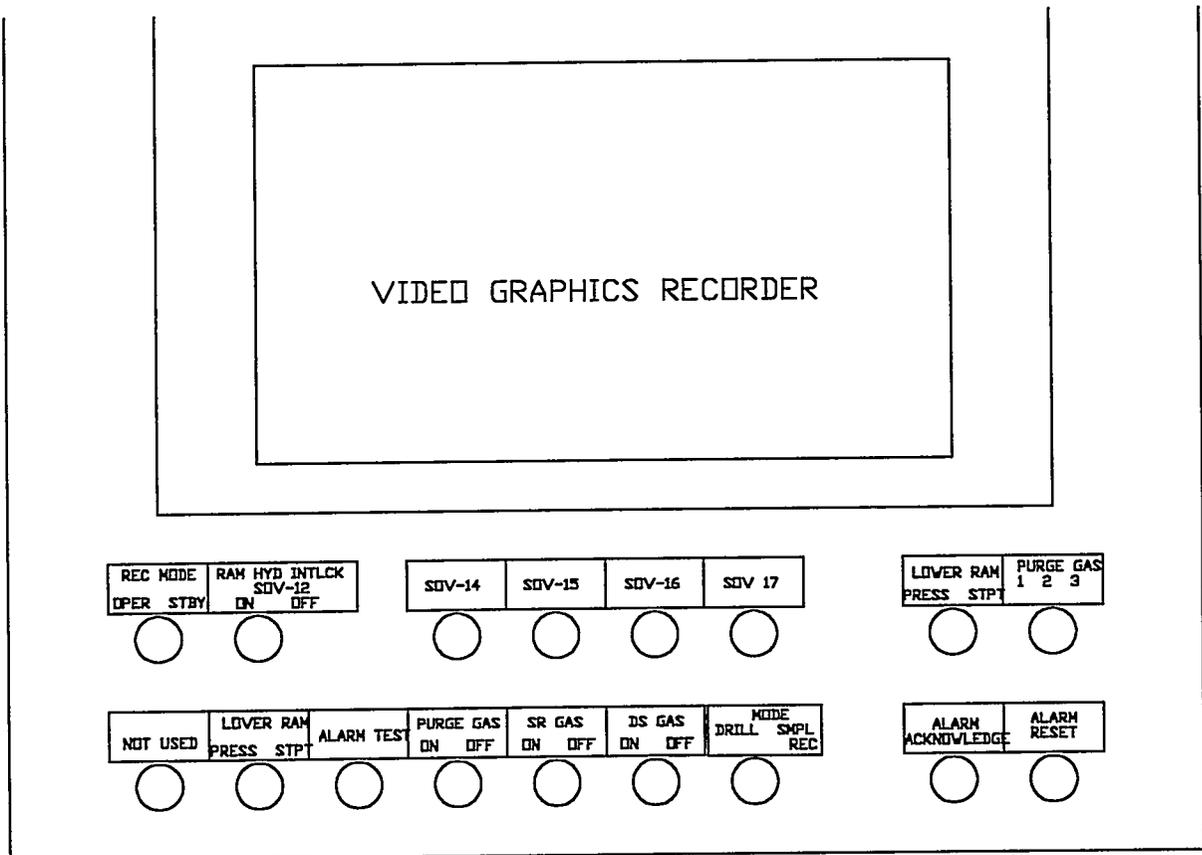
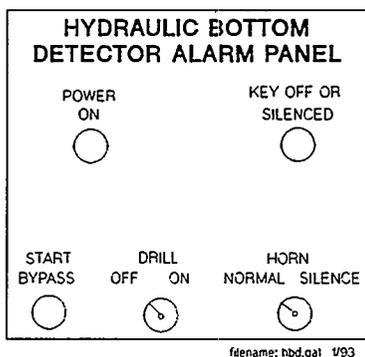
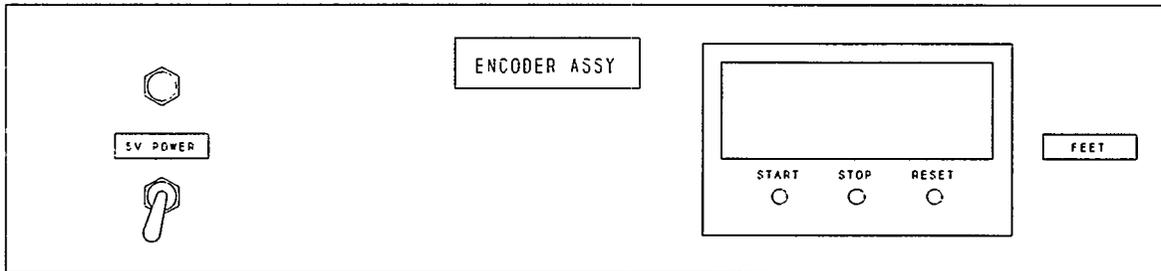

Figure 11 Video Graphic Recorder and HBD Instrumentation Controls
Figure 12) Hydraulic Bottom Detector Controls.
Figure 14) Encoder Panel.
7.4.12 TEST the HBD (see Figure 12) as directed below:
- OP/CE ___/___ 7.4.12.7 PUSH and HOLD the START BYPASS button on the HBD Panel.(see Figure 12)
- OP/CE ___/___ 7.4.12.9 When the UP and DOWN ram gage pressures stabilize, TURN the HBD DRILL key ON then RELEASE the START BYPASS button.(see Figure 12)
- OP/CE ___/___ 7.4.12.11 **LOWER** the drill head until the alarms activate as the pressure is reached. (SEE Figure 11, Figure 12)
- OP/CE ___/___ 7.4.12.12 **TURN** the HORN knob to **SILENCE** (see Figure 12) to quiet the siren, **POSITION** the 4-way valve to **FLOAT** to stop the rams, and **ROTATE** the **DRILL** key on the HBD panel to **OFF** to stop the strobe and disable the HBD.
NOTE: Refer to Figure 12 and Figure 14 for the RLU controls addressed below.